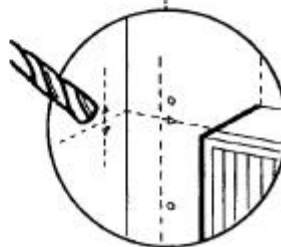

Fig. 36
14. Cut a hole approximately 107mm (4¼ in) diameter in the masonry for the 100mm (4 in) diameter flue duct (Fig. 36). (Use of a core drill is recommended. When using a core drill, it is important to keep the drill level and square, particularly with the wall onto which the boiler is to be fitted).